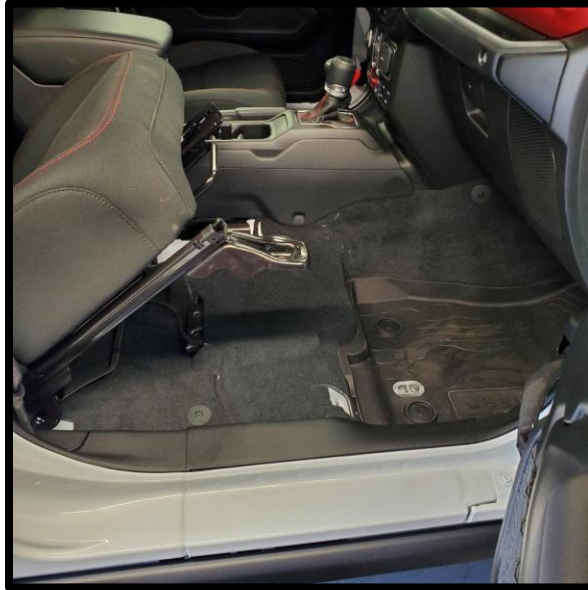

Figure 3
- 2-A) Using a T-50 or E-12 Torx remove the 2 rear bolts that secure the passenger seat, then slide the seat all the way back, and tilt back section all the way forward. Then remove the 2 front seat bolts and lean seat backwards (**Figure 3**). There will be one or more harnesses attached to the bottom the seat. They do not need to be removed or disconnected.